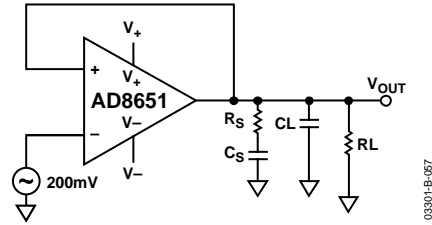

Figure 56. Snubber Network
2) Another way to stabilize an op amp driving a large capacitive load is to use a snubber network, as shown in Figure 56.
Because there is not any isolation resistor in the signal path, this method has the significant advantage of not reducing the output swing. The exact values of  $R_S$  and  $C_S$  are derived experimentally. In Figure 56, an optimum  $R_S$  and  $C_S$  combination for a capacitive load drive ranging from 50 pF to 1 nF was chosen. For this,  $R_S = 3 \Omega$  and  $C_S = 10 \text{ nF}$  were chosen.